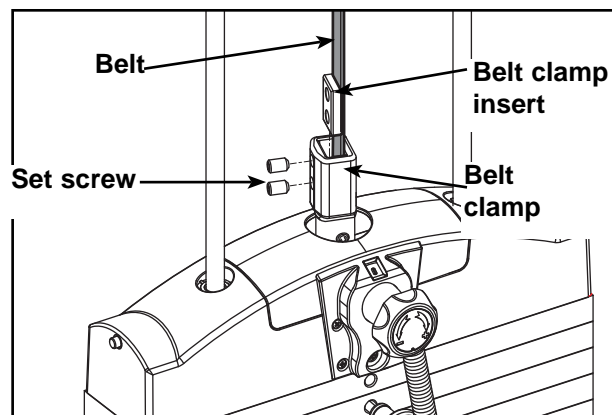

Figure 9
- E. Pull belt tight and secure belt to clamp with the two set screws. **NOTE:** Torque set screws 300-350in./lbs. See Figure 9.